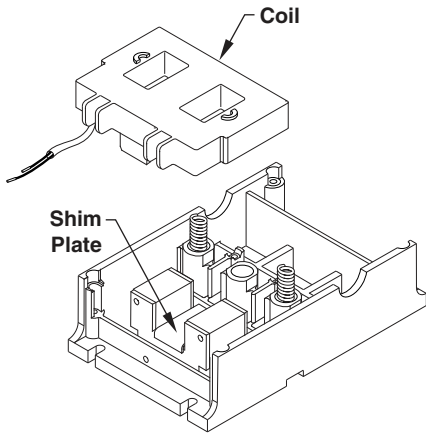

Figure 3C
6. Remove and replace the coil. Ensure that the Shim Plate remains in the proper position between the magnet core and coil (**Figure 3C**).